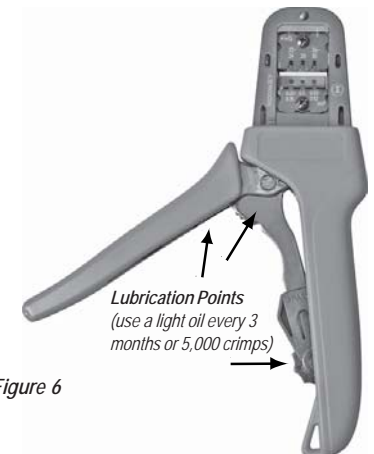

Figure 6
3. Make certain all pins; pivot points and bearing surfaces are protected with a thin coat of high quality machine oil (See Figure 6). Do not oil excessively. Light oil (such as 30 weight automotive oil) used at the oil points, every 5,000 crimps or 3 months, will significantly enhance the tool life.